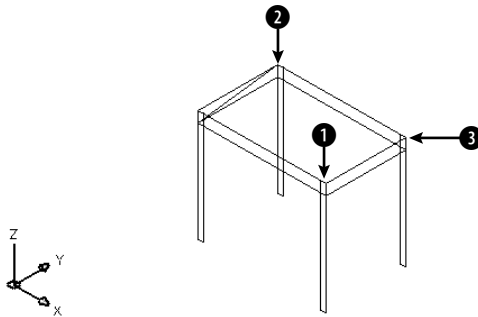

Figure 21-9: The piano bench after being shrunk with the **STRETCH** command.
3. Choose **Stretch** from the Modify toolbar. Use a crossing window to select the right side of the bench. Eight objects should be selected. End object selection. At the *Specify base point or displacement:* prompt, use the Endpoint object snap to pick ❶ in Figure 21-9. At the *Specify second point of displacement:* prompt, type `@-15,0 ↵`.
Specify first point: Choose ❷ in Figure 21-9.